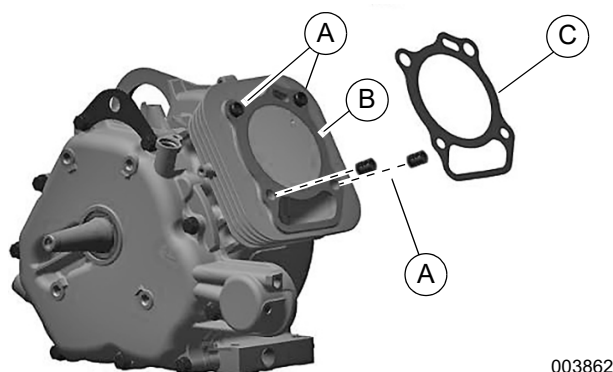

Figure 14-41. Install Dowels and Head Gasket
1. See Figure 14-41. Install cover dowels (A) in crankcase. Verify cylinder head surface (B) is clean and free of burrs and debris.